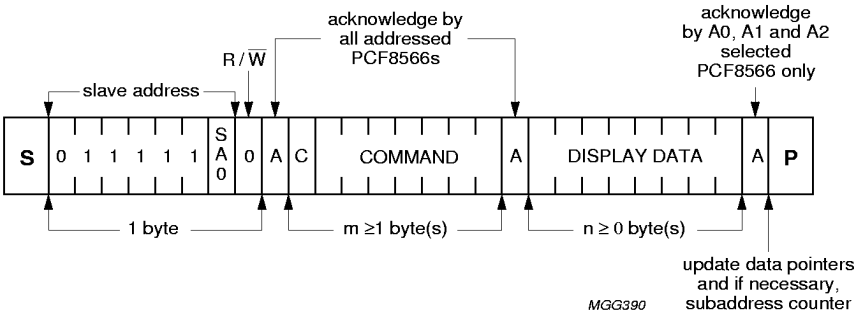

Fig.15 I²C-bus protocol.
The I²C-bus protocol is shown in Fig. 15. The sequence is initiated with a START condition (S) from the I²C-bus master which is followed by one of the two PCF8566 slave addresses available. All PCF8566s with the corresponding SA0 level acknowledge in parallel the slave address but all PCF8566s with the alternative SA0 level ignore the whole I²C-bus transfer. After acknowledgement, one or more command bytes (m) follow which define the status of the addressed PCF8566s. The last command byte is tagged with a cleared most-significant bit, the continuation bit C. The command bytes are also acknowledged by all addressed PCF8566s on the bus.